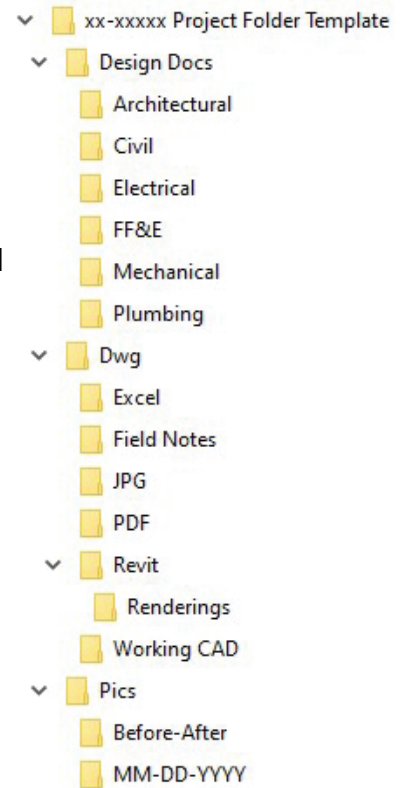

Figure 1
- 1.2. Drawings and files shall be organized in the folder structure as shown in Figure 1. The folders shall contain all relevant files and shall be free from stray elements.